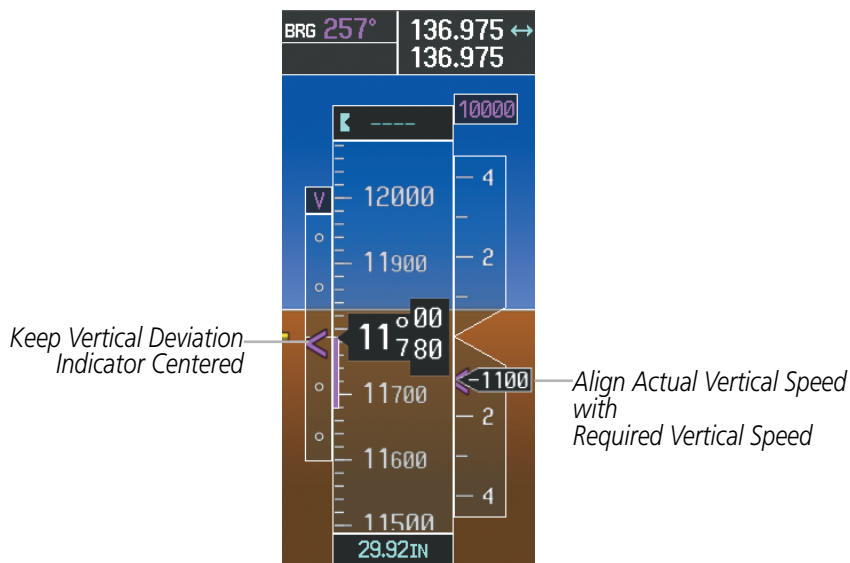

Figure 5-134 VDI & RVSI Showing Correctly Established Descent
- 16) Upon reaching TOD, a descent vertical speed is established by placing the VSI pointer in line with the RVSI as shown in Figure 5-134.